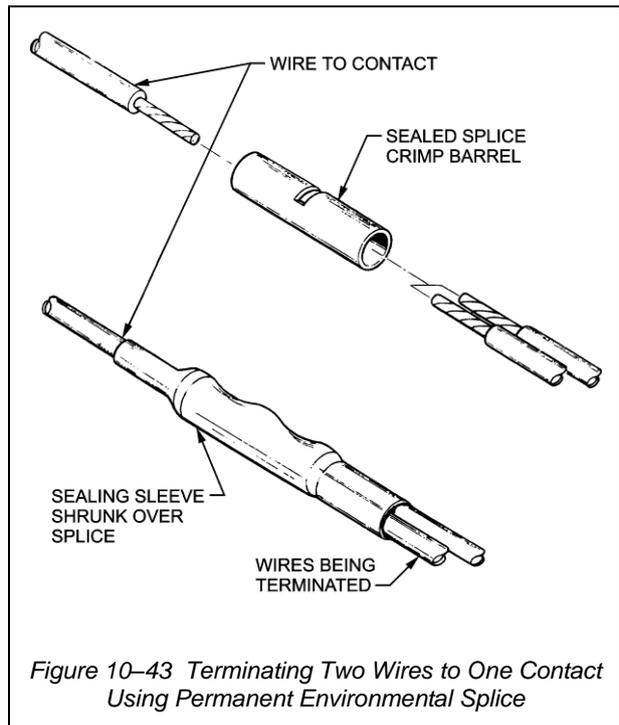

Figure 10-43 Terminating Two Wires to One Contact Using Permanent Environmental Splice
- b. If both wires cannot fit into solder cup, use permanent splice to join both wires to a third wire that can fit into solder cup or crimp barrel. See Section 2, Chapter 6 for splicing procedure and Figure 10-41 and Figure 10-43 for illustration of this connection.
- b. Select a 15cm length of wire that will fit the wire barrel of the contact. Strip one end sufficiently long to be able to double the stripped portion back on itself as shown in Figure 10-43.